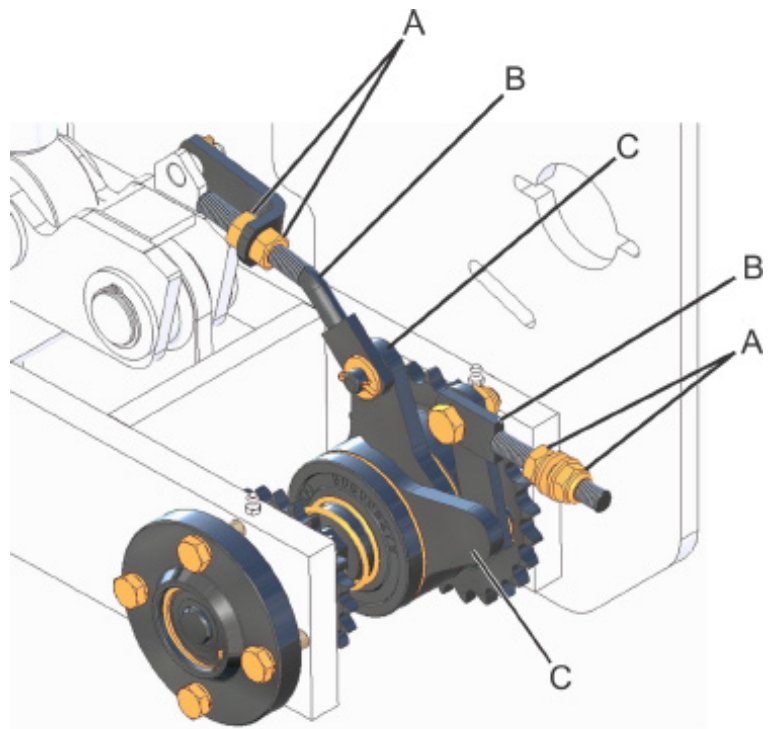

fig. 30
Adjust the regulating rod (B) (fig. 30), so that it allows a greater or smaller time of opening and activation of the ratchet drives (C), through the nuts (A).